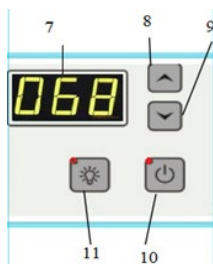

Figure 12
- Click  Key (11) to turn on or off the illumination light on the bottom of the glass dish;
- When the LED light at the top left corner of the key and the illumination light are on, press and hold  Key (11) until the LED light flashes to view the brightness value on the Display (7) (Figure 12);
- Click Key (8) or (9) to adjust the brightness value in the range of 0-124.
- The brightness setting will be automatically saved and the unit returns the normal operating status after 10 seconds or by clicking  Key (11)